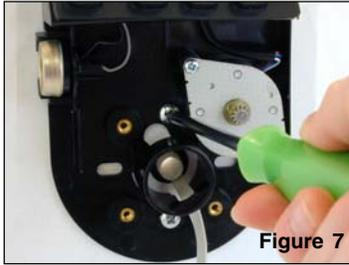

Figure 7
4. Attach the keypad/base assembly to the container door using the two #8-32 (or M4-0.7) mounting screws. (Figure 7) Do not fully tighten screws.
6. Insert the spindle from the back of the keypad/base assembly. (Figure 7)